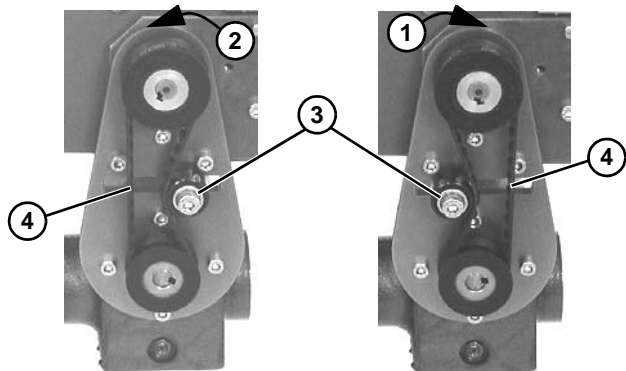

Figure 11
8. Depending on direction of conveyor belt travel (**Figure 11, item 1 or 2**), position belt tensioner (**Figure 11, item 3**) as shown. Tension belt to obtain 0.125" (3 mm) deflection for 1.0 lb (456 grams) of force at belt mid-point (**Figure 11, item 4**). Tighten tensioner screw to 103 in-lb (12 Nm).
3. Depending direction of conveyor belt travel (**Figure 11, item 1 or 2**), position belt tensioner (**Figure 11, item 3**) as shown. Tension belt to obtain 0.125" (3 mm) deflection for 1.0 lb (456 grams) of force at belt mid-point (**Figure 11, item 4**). Tighten tensioner screw to 103 in-lb (12 Nm).
5. Depending direction of conveyor belt travel (**Figure 11, item 1 or 2**), position belt tensioner (**Figure 11, item 3**) as shown. Tension belt to obtain 0.125" (3 mm) deflection for 1.0 lb (456 grams) of force at belt mid-point (**Figure 11, item 4**). Tighten tensioner screw to 103 in-lb (12 Nm).